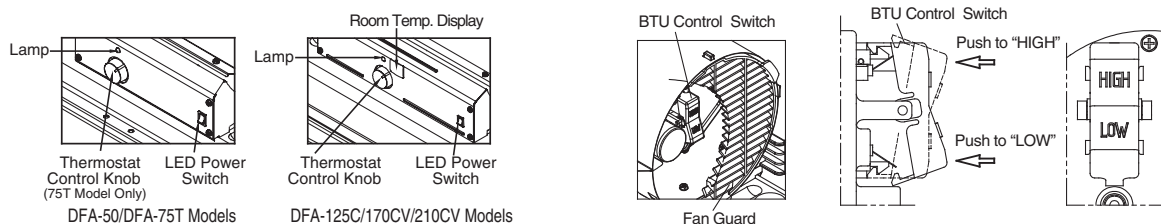

Figure 8. Controls for All Models
5. Push “BTU control Switch” to desired level “High or LOW” (DFA-170CV/DFA-210CV Models only, See Figure 8).